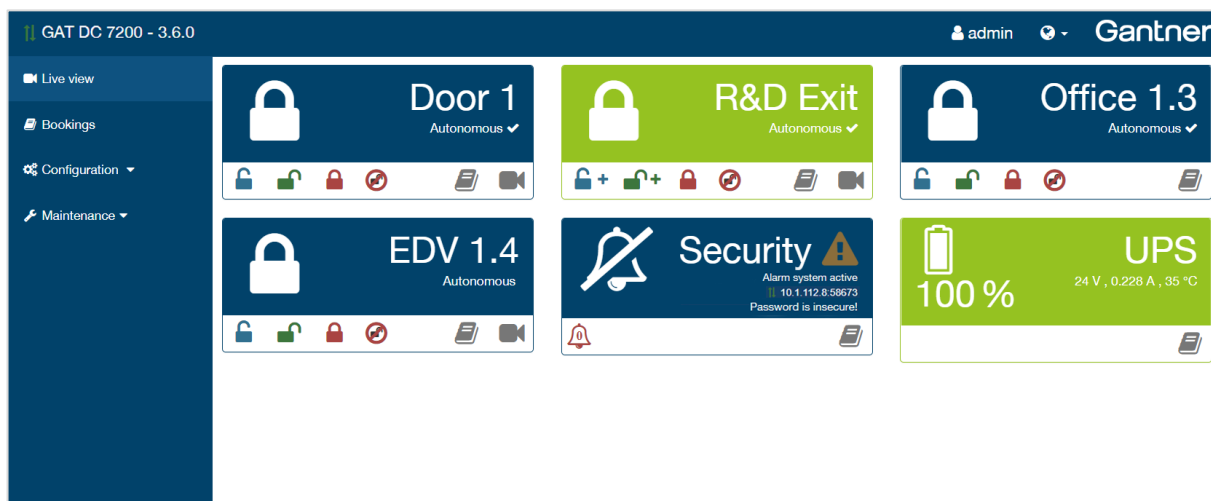

Figure 6.11 – GAT DC 7200 configuration - Web interface main window
- The main window with live view of the doors opens in the web interface (see Figure 6.11). Other web interface functions can be accessed via the menu.